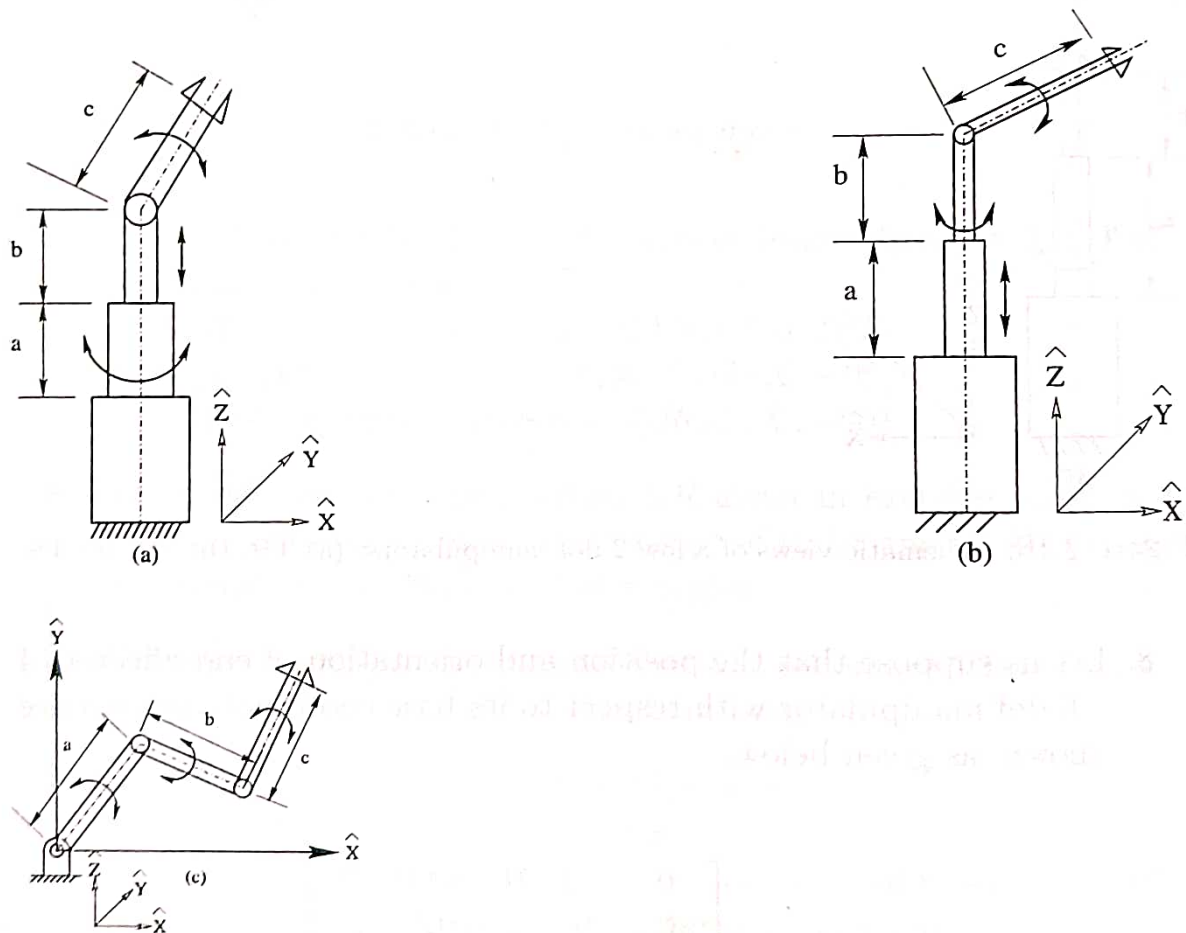

Figure 2.19: Schematic views of a few 3 dof manipulators: (a) TSR, (b) STR, (c) RRR.
9. Fig. 2.19 displays a few 3 dof manipulators.